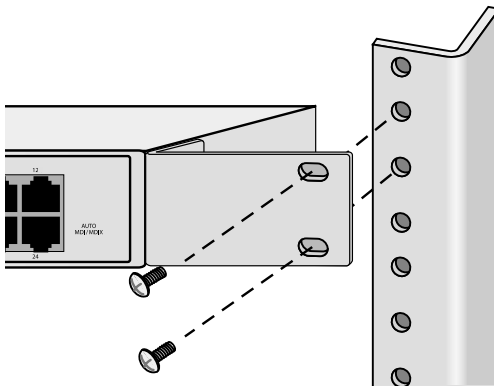

Figure 8 Installing the Switch to the Rack
4. Secure the switch to the rack using 2 screws (not provided) for each side as shown in Figure 8.